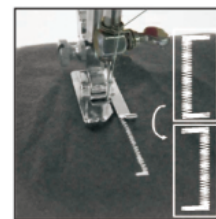

Fig.20
- (5) Raise the presser foot, rotating the cloth for 180° (Fig.20).